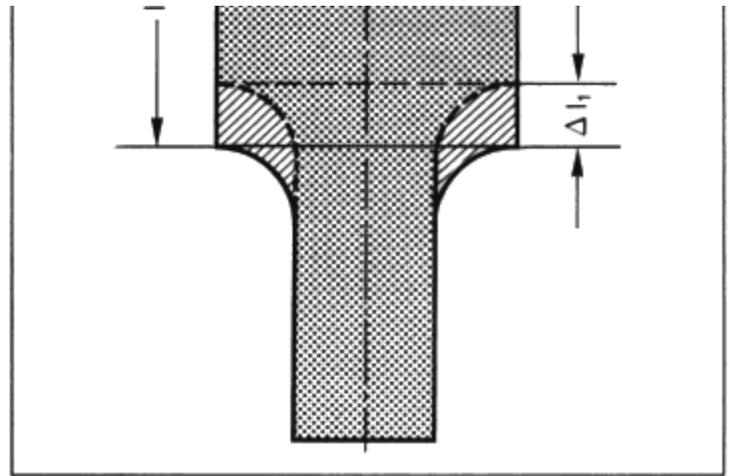

Figure 52: Reduction of the resonant frequency of a stepped sonotrode (stepped cylinder) by shortening length  $l_1$
- Stepped shape (figure 52) – shortening of length  $l_1$ .